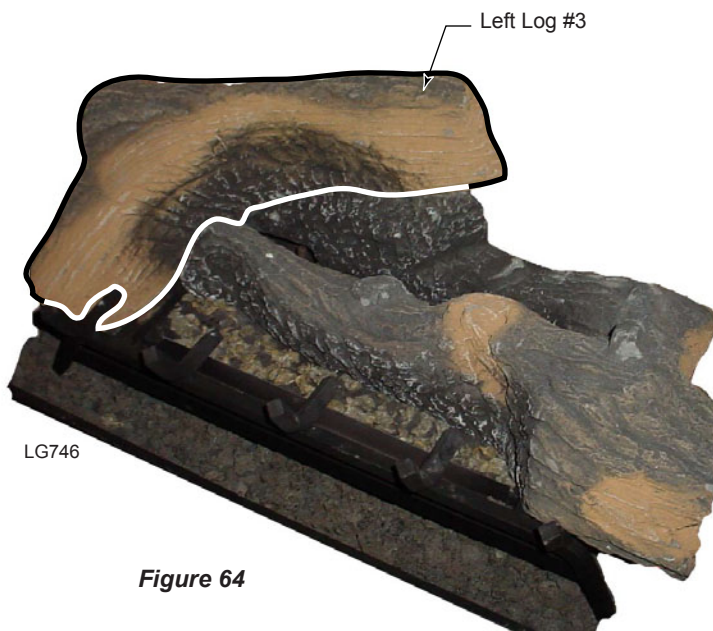

Figure 64
- For 400 models, place Left Log #3 by matching the notch on the side of the log with the protrusion on the rear log. Set the left side of the log over the cross bar of grate by placing the notch of the log on the grate bar. Be sure the log is tilted backward. When this log is in place, it is seated sideways. *Figure 64*
- For 300 models, place Left Log #3 by matching the notch on the side of the log with the protrusion on the rear log. Set the left side of the log over the grate bar in the front by placing the notch of the log on the grate bar. Make sure the log is tilted backward. When this log is in place, it is seated sideways. *Figure 64*